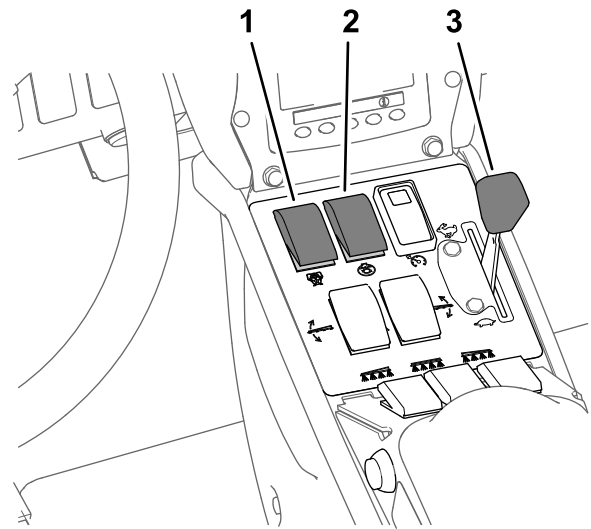

Figure 46
8. Set the agitation switch and the spray-pump switch to the ON position (Figure 46).
9. Set the throttle to the FAST position (Figure 46).
Note: This procedure assumes that the spray pump is on; refer to Figure 46 in Spraying in the Application Rate Mode (page 37).
4. Adjust the throttle to the desired engine speed to spray; refer to Figure 46 in Spraying in the Application Rate Mode \(page 37\).